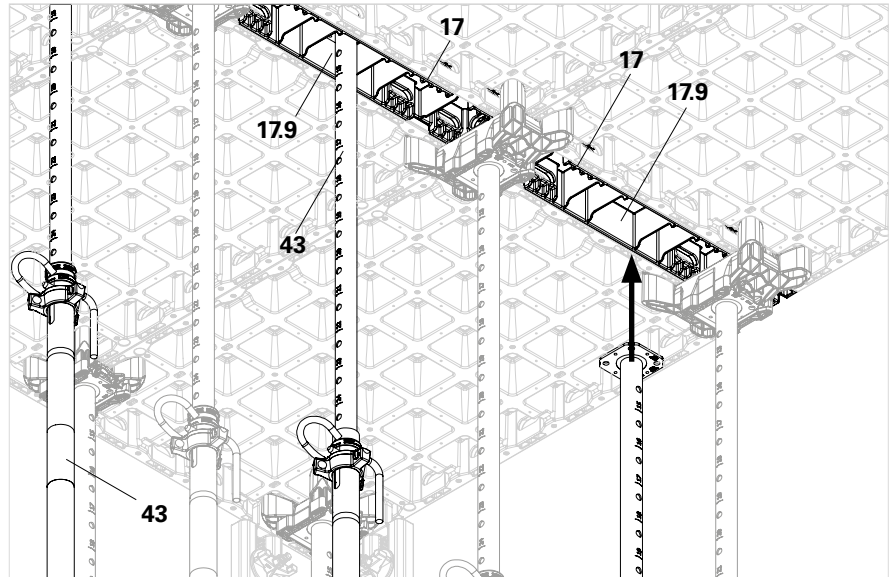

Fig. D5.02
1. Take measures to prevent falls and remove the guardrail boards from all SGP guardrail posts (75).
2. Position two slab props without propheads (43) in the prop supports (17.9) in the centre of two filler panels (17) that have been installed next to each other. (Fig. D5.02)
3. Remove DUO couplers (21) before lowering the slab props.
4. Insert both flanges of the DUO shuttering aid (37) into the connector pockets of the first DP panel.